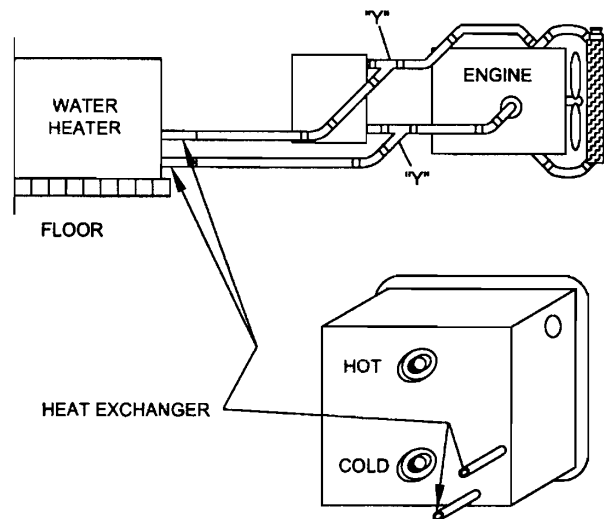

Figure 9
A. Place copper "Y"s in heater as shown in Figure 9.